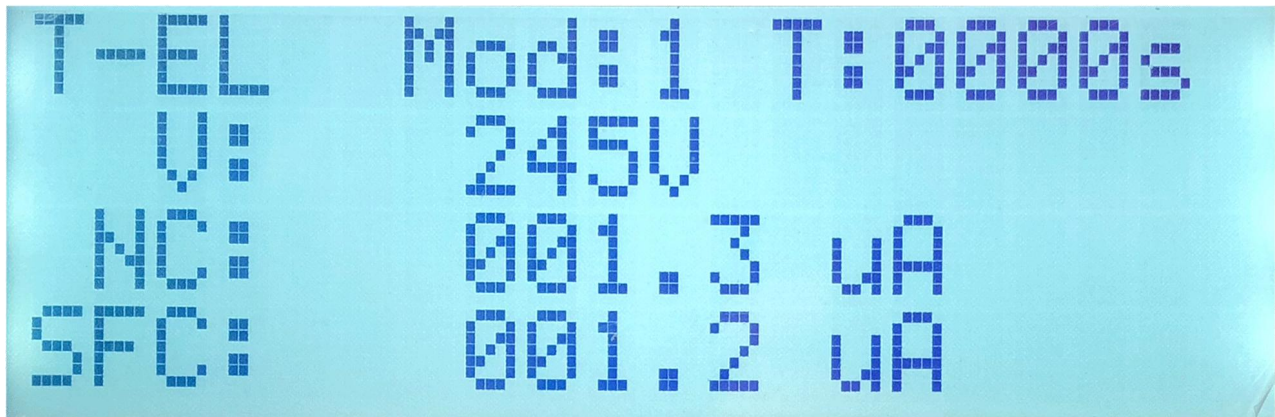

图9 Figure 9
3、按“启动”键，先调节调压器将电压调制规定值。仪器会自动各种组合的测试，如图 9 所示。一次测试完后按“启动”重新开始测试。若遇不合格仪器会发出声光报警，停止测试，按复位键可清除。Press the "Start" button and adjust the voltage regulator to the specified value. The instrument will automatically perform various combination tests, as shown in Figure 9. After one test cycle, press "Start" to begin a new test. If there is a failure, the instrument will emit an audible and visual alarm and stop the test. Press the "Reset" button to clear the alarm.